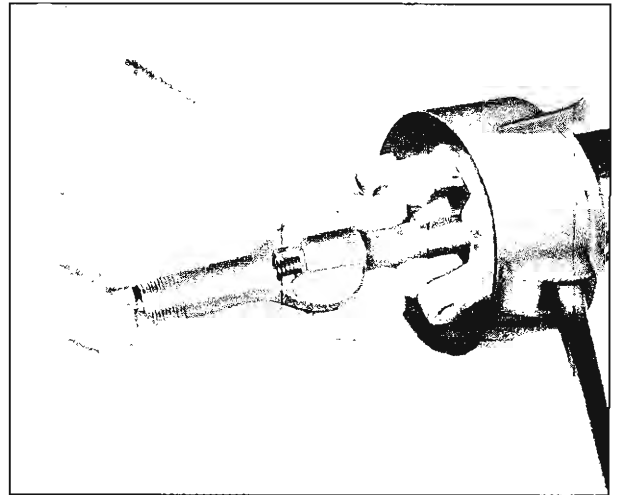

Fig. 23—Removing the Steering Shaft
16. Remove the steering shaft assembly upward through the mast jacket (fig. 23).